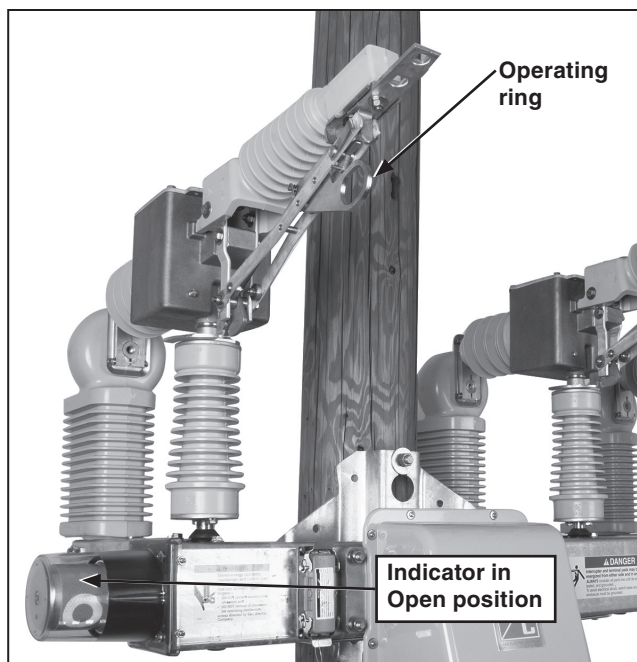

Figure 17. The Scada-Mate SD switch in the Open position.
STEP 23. Verify the switch is open by checking the OPEN/CLOSE indicator on the end of the switch. See Figure 17. Place the LOCAL/ REMOTE switch inside the control unit in the **Local** position before operating the disconnect. Refer to the instruction sheet furnished with the control unit. Now the switch can only be operated locally.